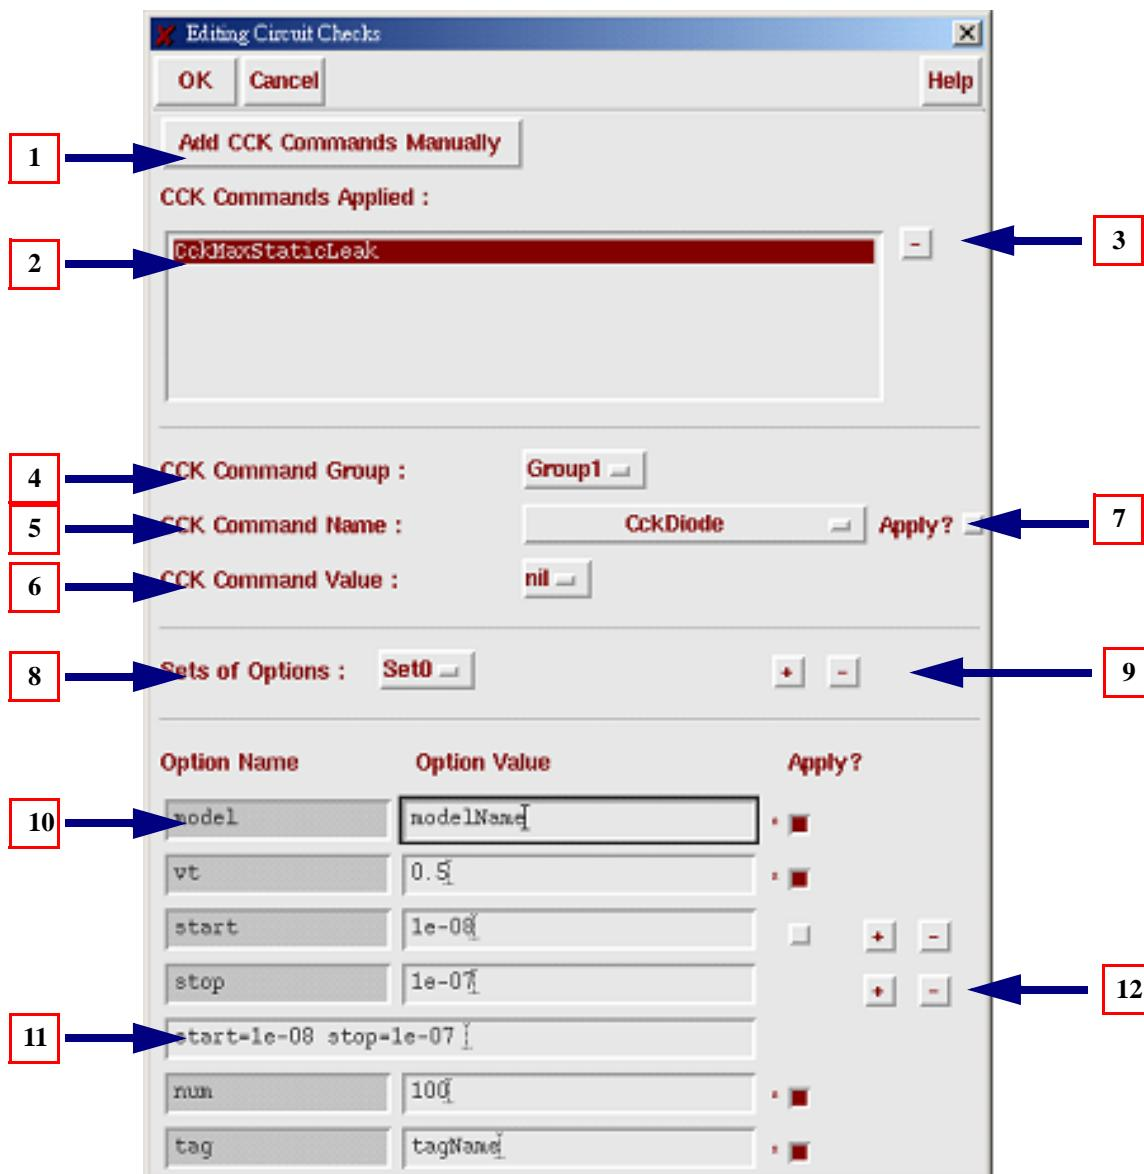

Figure 63 Editing CircuitChecks
3. Choose HSIM->CircuitCheck to open the Editing CircuitChecks window shown in Figure 63.
The following are descriptions of the Editing CircuitChecks window features shown in Figure 63.
The name of the selected command is listed in the CCK Command Applied: list box of the Editing CircuitChecks window shown in Figure 63 on page 796. Only the commands listed in the list box will be output into a CCK command file. These will then be included in the HSIM simulation netlist.